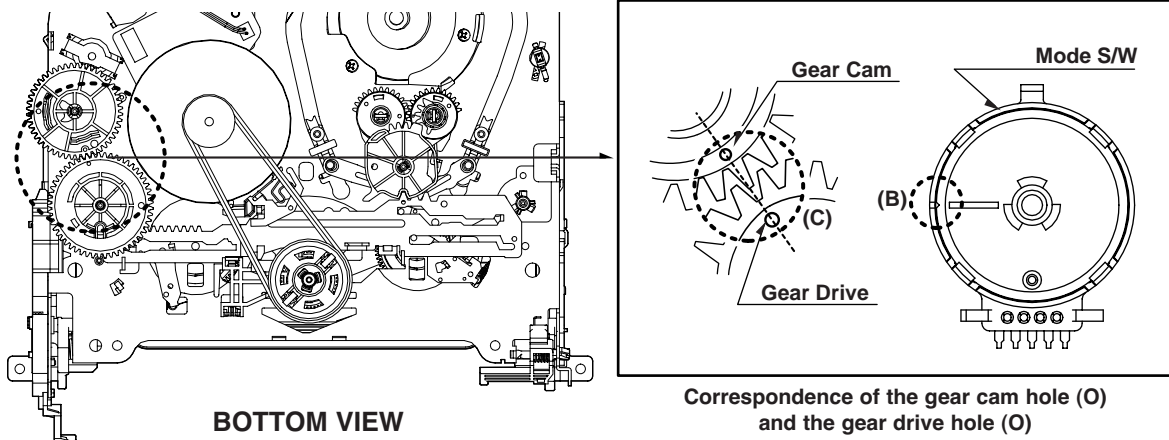
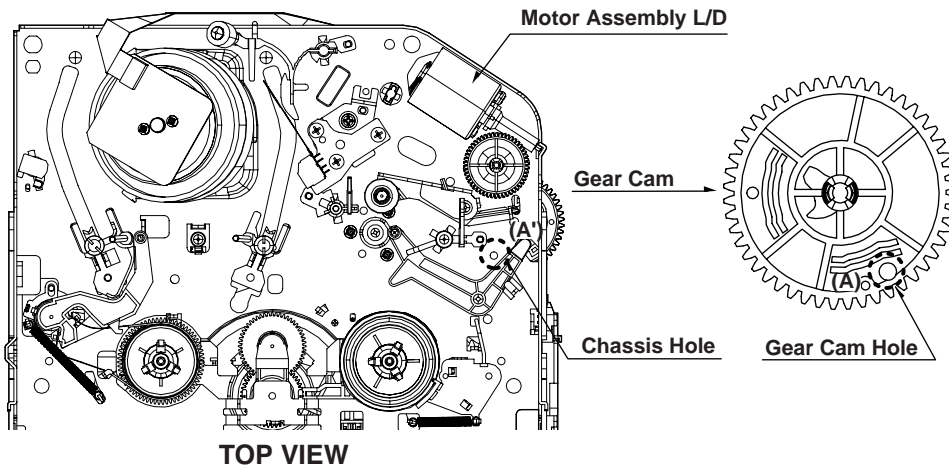

Fig. C-1
Fig. C-2
<p>1) Turn the VCR on and take the tape out by pressing the eject button.</p> <p>2) Separate both top cover and plate top, and check both the hole (A) of gear cam and the hole (A') of chassis correspond (Fig. C-2).</p> <p>3) If it is done as in the paragraph 2): Turn the gear cam after mantling the motor assembly L/D.</p> <p>4) Undo the screw fixing the deck and the main frame, and separate the deck assembly. Check both the hole (A) of gear cam and the hole (A') of chassis correspond (Fig. C-1).</p> <p>5) Check the mode S/W on the main P.C. board locates at a proper position as in (B) of the Fig. (C-1).</p> <p>6) Connect the deck to the main P.C. board and perform all types of test.</p>